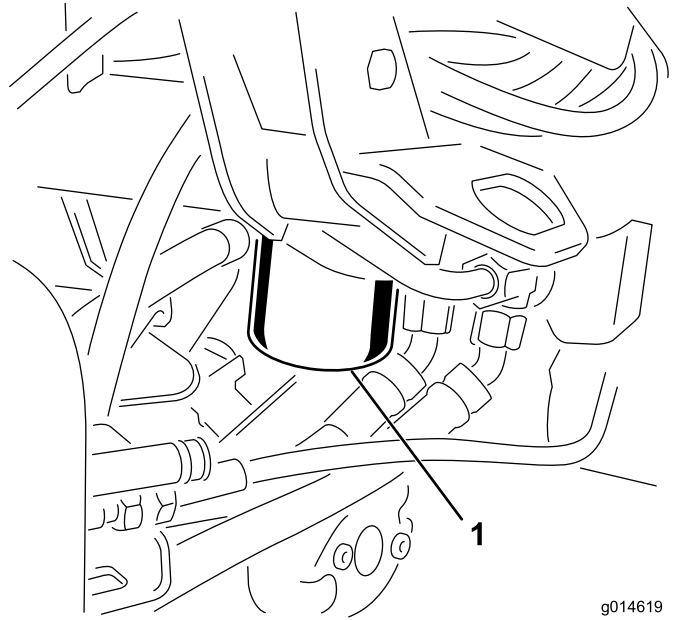

Figure 54
1. Clean the area around the filter mounting area (Figure 54). Place a drain pan under the filter and remove the filter.